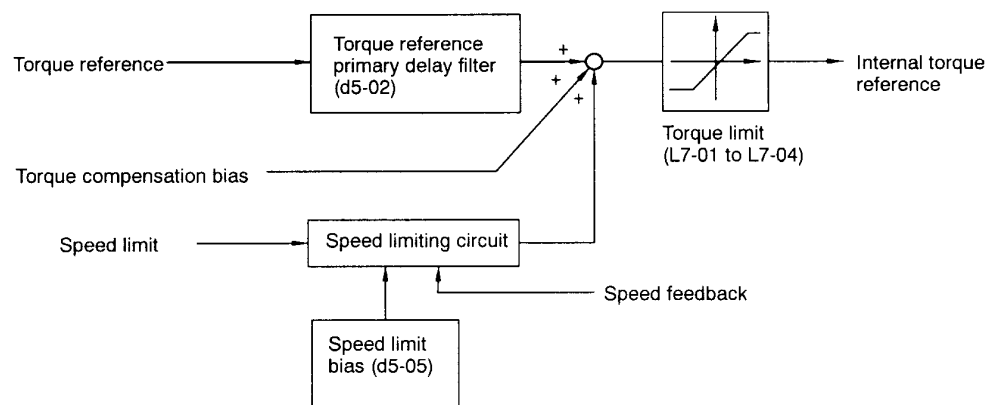

Figure 7.9 Torque Control Block Diagram
- Figure 7.9* shows the operation of Torque Control.